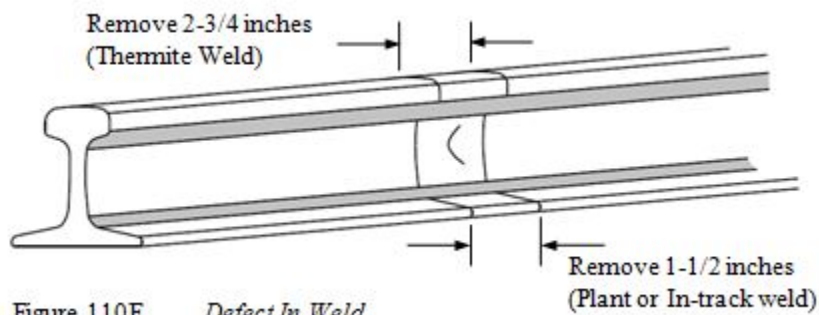

Figure 110F *Defect In Weld*
1. In a plant or in-track weld, cut out the defect by removing a 1-1/2 inch section of rail, 3/4 inch each direction from center of weld. (See to Figure 110F)
2. In a thermite weld, cut out the defect by removing a 2-3/4 inch section of rail, at least 1-3/8 inches each direction from center of weld.(See Figure 110F)